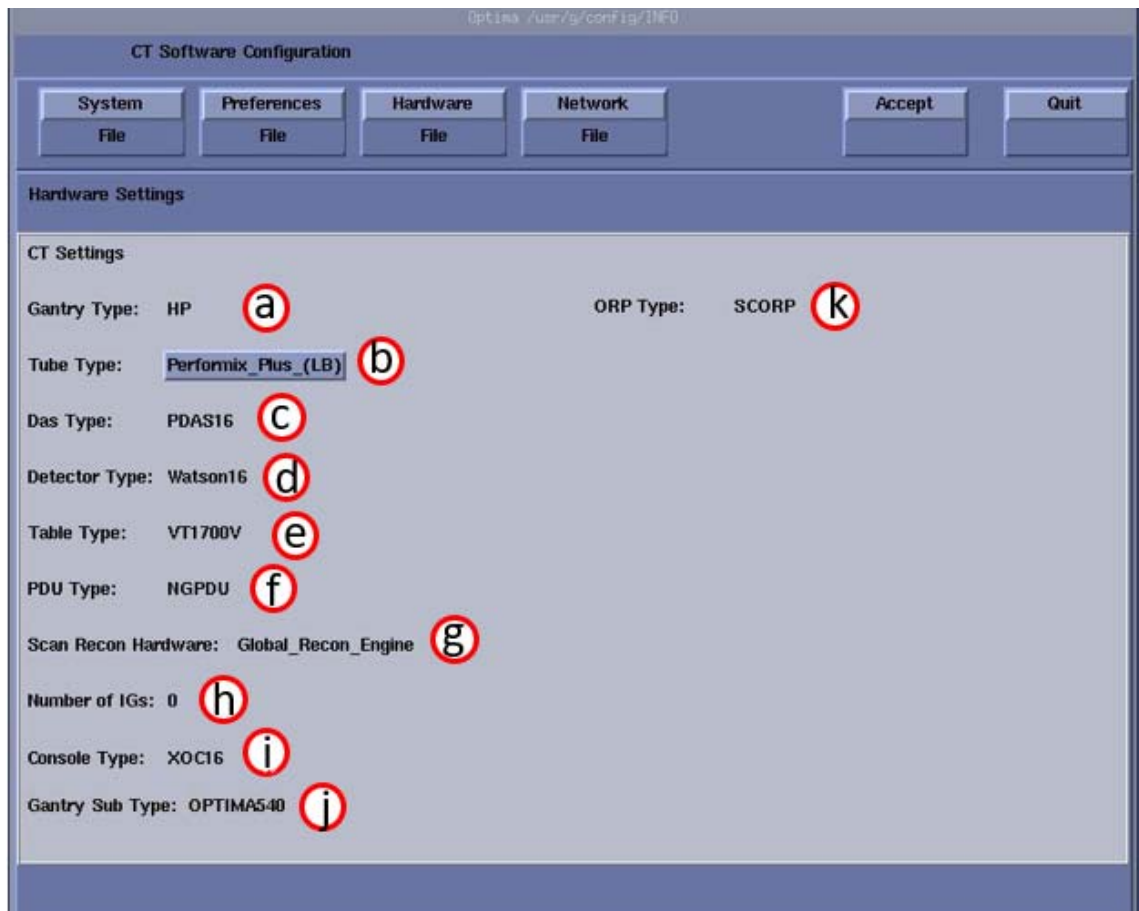

Figure 6-15 Hardware Settings Screen
- 9.) Select the HARDWARE button to display the Hardware Settings Screen (Figure 6-15).